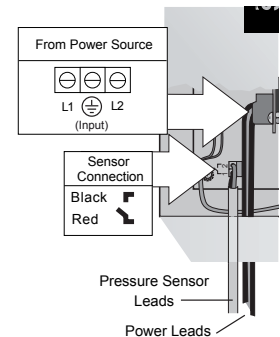

Figure 4: Power and Pressure Sensor Connections
6. Feed the 230 VAC power leads through the larger opening on the bottom left side of the SubDrive controller and connect them to the terminals marked L1, GND, and L2 (Figure 4).